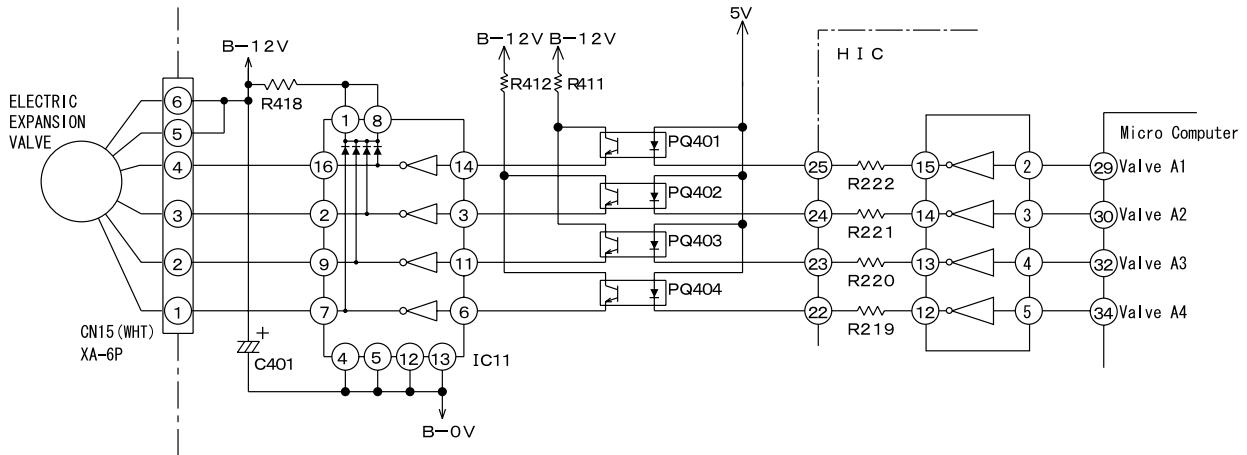

Fig.5-1
- * Fig.5-1 shows logic waveform when expansion valve is operating.